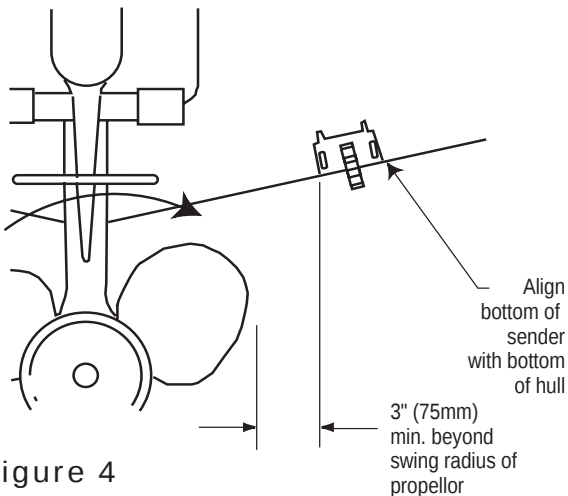

Figure 4
A) Single engine - mount the sensor on the side of the boat where propeller is rotating downwards, at least 3" beyond the swing radius of the propeller. (See Figure 4.)